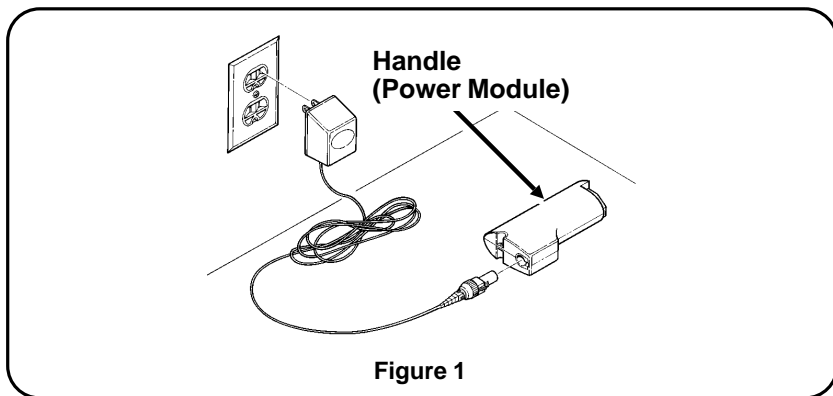

Figure 1
1. Plug the cord of the wall charger into the handle socket (Figure 1).